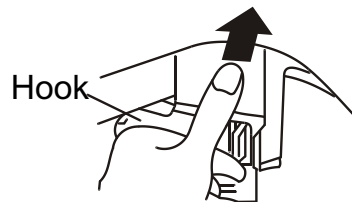

Figure 3
- (1).Install the corrugated pipe.
- (2).Insert the mounting plate at the bottom of the filter into the valve cover.
- (3).Hang up the hook at the left upper side.
- (4).Push the upper part in as indicated in Figure 3.